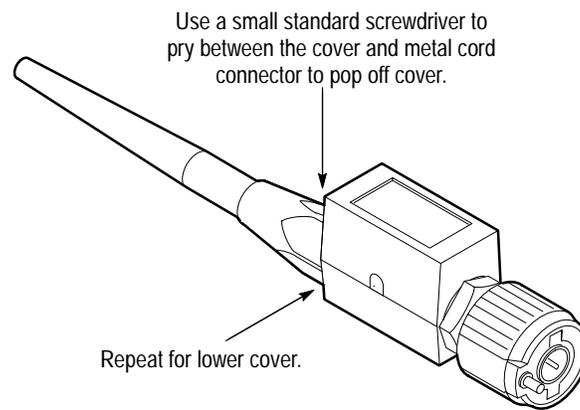

Figure 5-7: Exposing the probe body
- Follow the instructions in Figure 5-7 to remove the probe body covers.